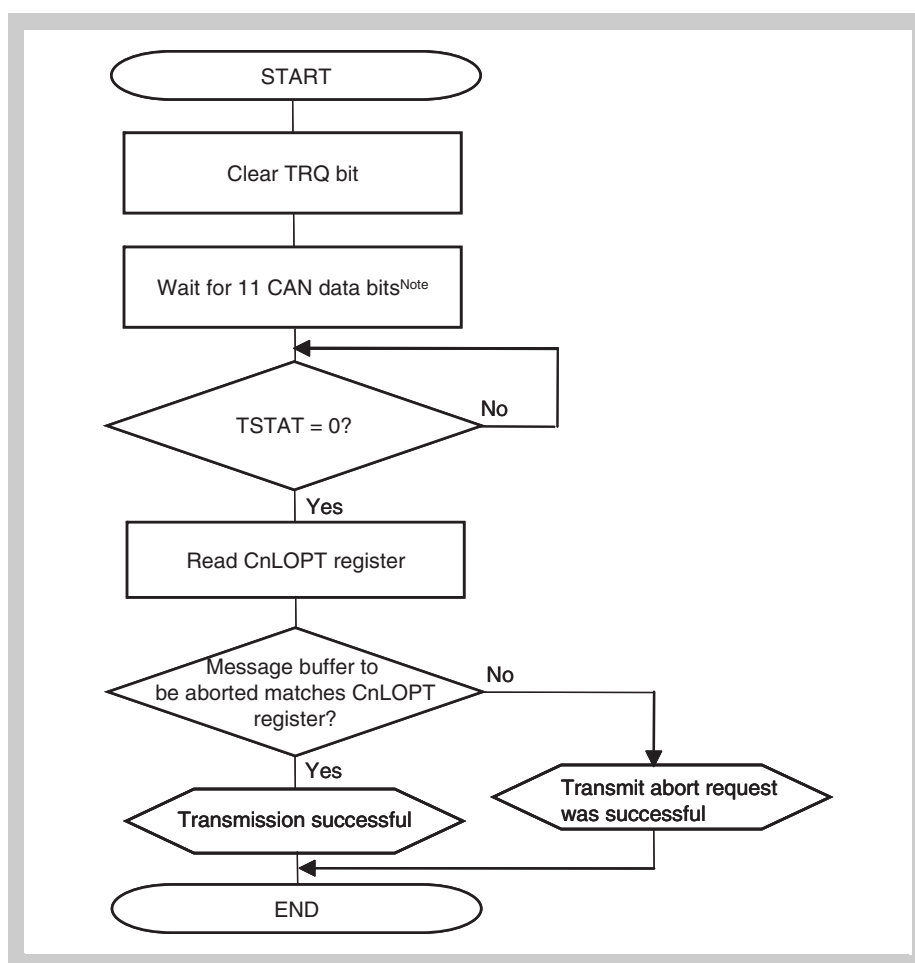
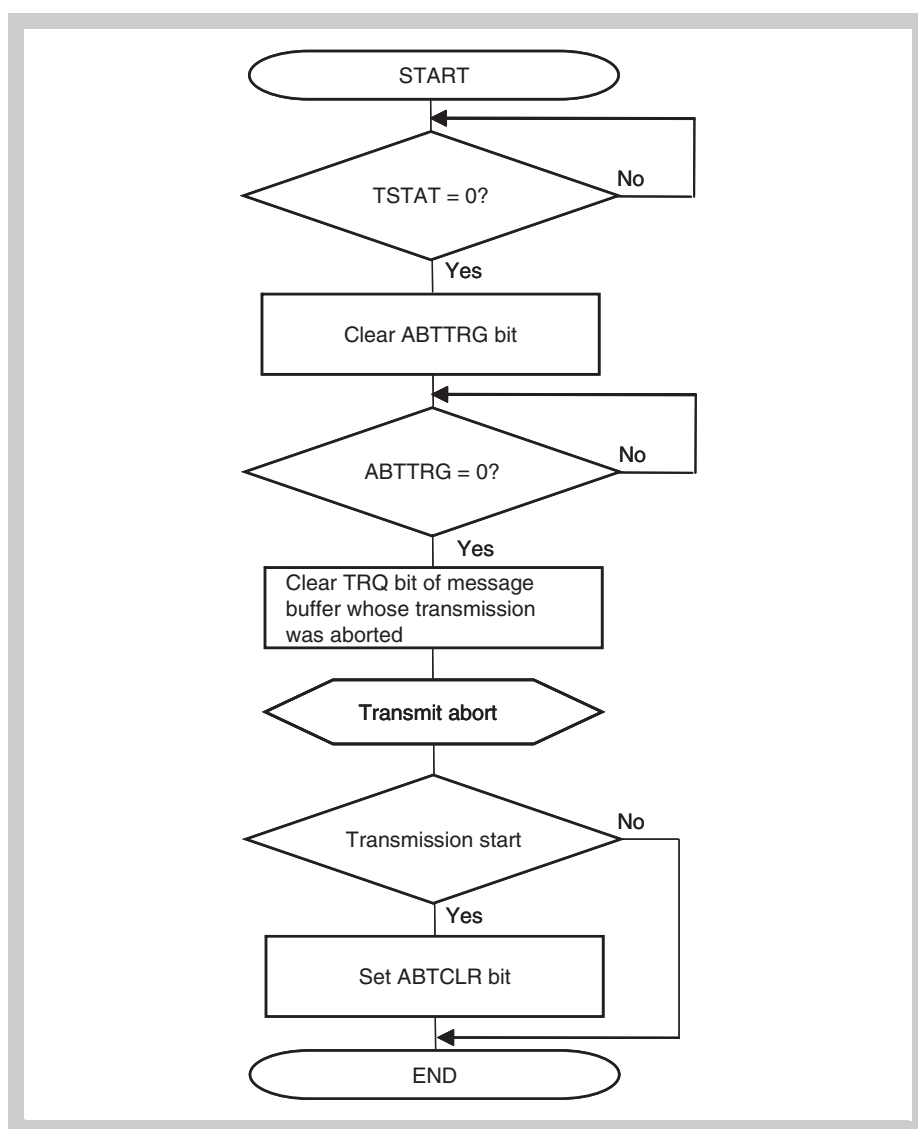
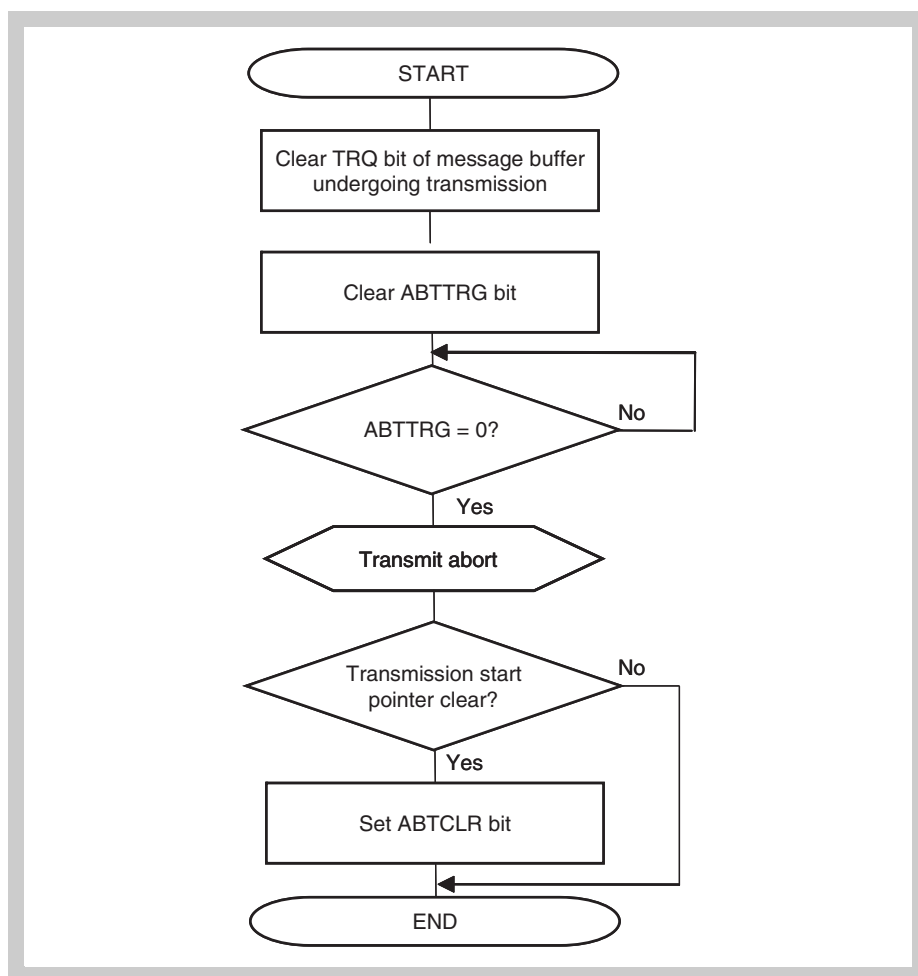

Figure 18-45 Transmission abort processing (except normal operation mode with ABT)
Figure 18-47 Transmission abort processing (normal operation mode with ABT)
Figure 18-48 ABT transmission request abort processing (normal operation mode with ABT)
Figure 18-47 shows the processing to skip resumption of transmitting a message that was stopped when transmission of an ABT message buffer was aborted.
2. Make a CAN sleep mode/CAN stop mode transition request after the ABTTRG bit is cleared (after ABT mode is aborted) following the procedure shown in Figure 18-47 or Figure 18-48. When clearing a transmission request in an area other than the ABT area, follow the procedure shown in Figure 18-45 on page 827.
Figure 18-48 shows the processing to not skip resumption of transmitting a message that was stopped when transmission of an ABT message buffer was aborted.
2. Make a CAN sleep mode/CAN stop mode request after the ABTTRG bit is cleared (after ABT mode is stopped) following the procedure shown in *Figure 18-47* or *Figure 18-48*. When clearing a transmission request in an area other than the ABT area, follow the procedure shown in *Figure 18-45* on page 827.
Caution To abort transmission before making a request for the CAN sleep mode, perform processing according to Figure 18-45 on page 827 and Figure 18-47 on page 829.